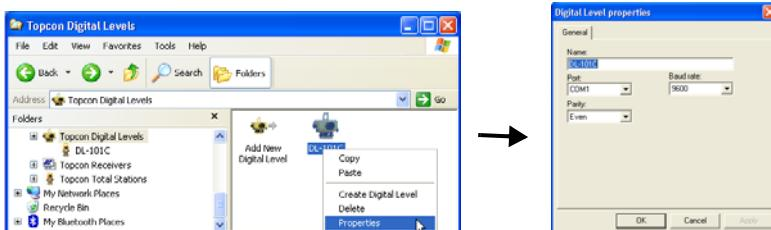

Figure 2-31. Changing Digital Level Properties
3. A new icon for the Digital Level displays (Figure 2-31) in the right panel, and a new sub-folder will be created in the *Topcon Digital Levels* folder of Windows Explorer. To change the properties (communication parameters, name, model, and so on) for this Digital Level, right-click on the icon and select *Properties* on the pop-up menu. The **Digital Level Properties** dialog box for the Digital Level is identical to the **Create Digital Level** dialog box for the new Digital Level.